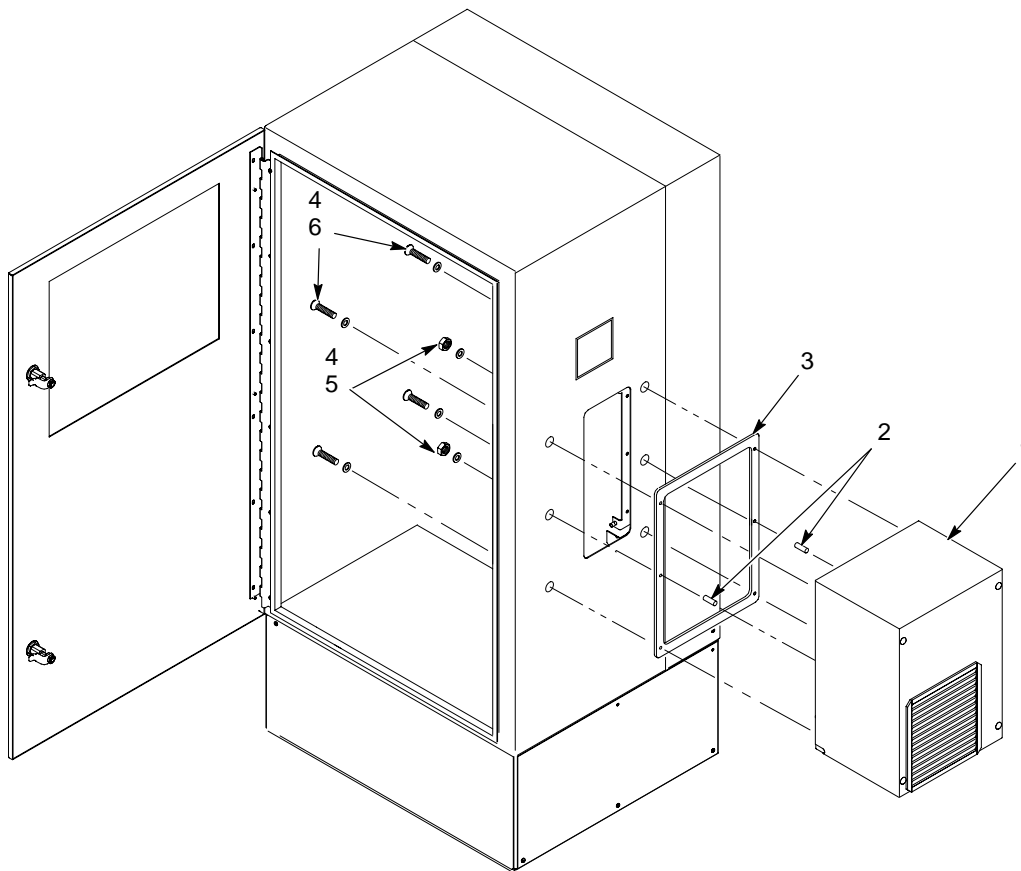

Figure 4 Air Conditioner Installation
1. See Figure 4. Install the studs (2) in the left and right center hole positions on the air conditioner (1).
2. Remove the liner from the gasket (3) and install it with the adhesive side toward the air conditioner, over the two studs, lining up the four holes in the gasket with the bolt threaded holes in the air conditioner.
5. The second person installs the supplied washers (4) and nuts (5) on the studs on the inside of the cabinet. Do not tighten the nuts completely.
6. Install the other washers (4) and bolts (6) in the four remaining bolt holes from inside the cabinet.